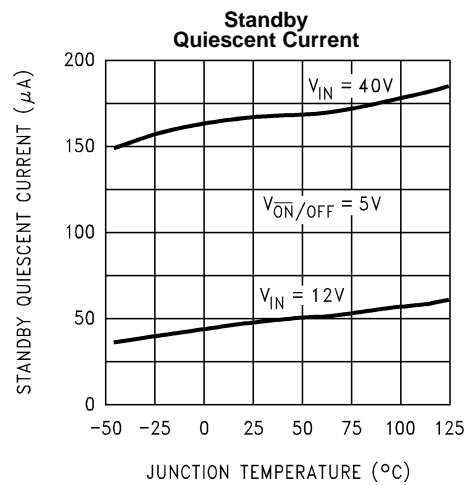

Figure 9.
- (1) All limits specified at room temperature (Standard type face) and at temperature extremes (bold type face). All room temperature limits are 100% production tested. All limits at temperature extremes are specified via correlation using standard Statistical Quality Control (SQC) methods. All limits are used to calculate Average Outgoing Quality Level.
- (2) The oscillator frequency reduces to approximately 18 kHz in the event of an output short or an overload which causes the regulated output voltage to drop approximately 40% from the nominal output voltage. This self protection feature lowers the average power dissipation of the IC by lowering the minimum duty cycle from 5% down to approximately 2%. Figure 9
- (3) Output pin sourcing current. No diode, inductor or capacitor connected to output pin.
- (4) Feedback pin removed from output and connected to 0V.
- (5) Feedback pin removed from output and connected to +12V for the Adjustable, 3.3V, and 5V versions, and +25V for the 12V and 15V versions, to force the output transistor OFF.
- (6) $V_{IN} = 40\text{V}$ (60V for high voltage version).
- (7) Junction to ambient thermal resistance with approximately 1 square inch of printed circuit board copper surrounding the leads. Additional copper area will lower thermal resistance further. See Application Hints in this data sheet and the thermal model in Switchers Made Simple software.
- (8) Junction to ambient thermal resistance with approximately 4 square inches of 1 oz. (0.0014 in. thick) printed circuit board copper surrounding the leads. Additional copper area will lower thermal resistance further (See Note 7)